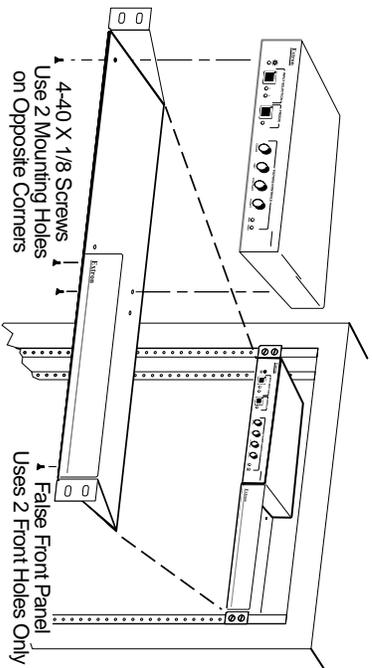

Figure 2 — Rack mounting the Lanciaxi
1. For optional rack mounting, mount the Lanciaxi on the left or right side of a 19" 1U Universal Rack Shelf (Extron part #60-190-01) (figure 2).